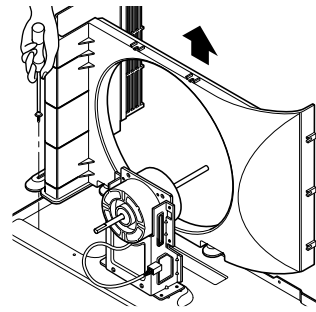

FIG. 32
3. Remove the shroud. (See Fig. 32)